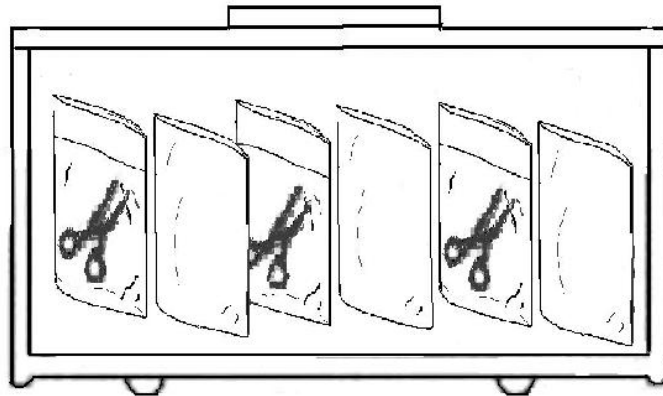

Figure 24
**Warning:** If implements are packed with sterilizing pouches and placed inside a sterilization box, make sure to display items as Figure 24.